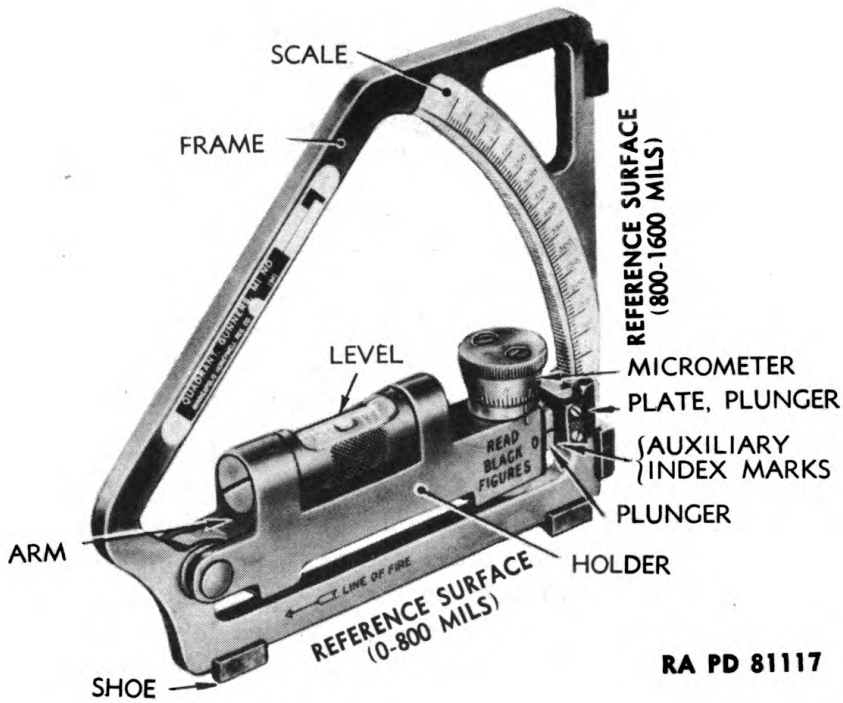
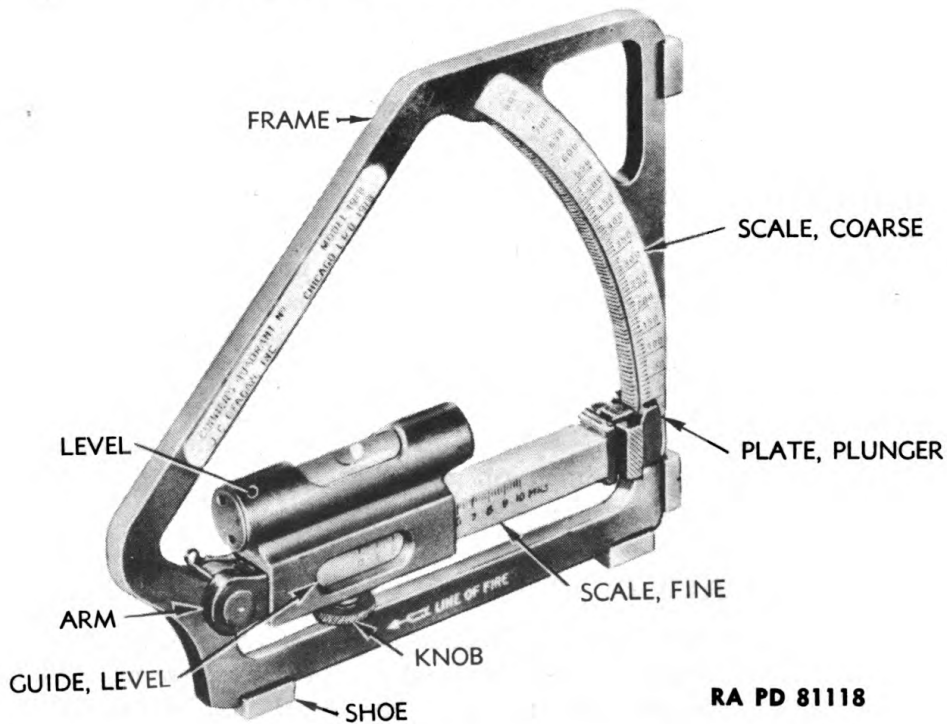

Figure 1—Gunner's Quadrant M1
Figure 2—Gunner's Quadrant M1918
a. This Technical Manual covers the maintenance of two types of gunner's quadrants, the M1 (fig. 1) and the M1918 (fig. 2). The principal difference in these instruments is in the design and operation of their movable arms. The Gunner's Quadrant M1 employs a level holder C44899 with a micrometer to obtain fine readings. The Gunner's Quadrant M1918 employs a sliding level assembly mounted on a slightly curved arm B137117. The fine readings are obtained by sliding the level assembly along the arm until the bubble in the level vial is centered.
4. DESCRIPTION OF GUNNER'S QUADRANT M1 (fig. 1).
5. DESCRIPTION OF GUNNER'S QUADRANT M1918 (fig. 2).